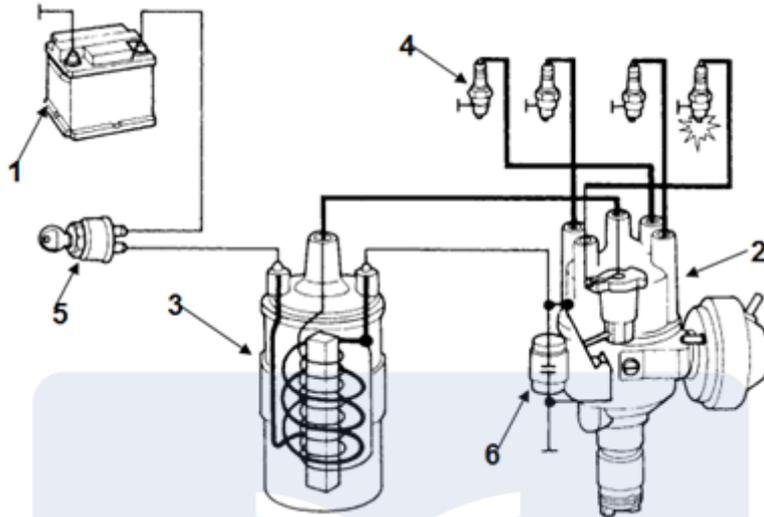

Figure 7
6) The diagram (figure 7) below represents an ignition system
- 6.1 State the function of part 3 of figure 7. (2marks)
- 6.2 Explain the operating principle of the ignition system represented by figure 7 above. (4marks)
- 6.4 State the name of the part that drives part 2 of figure 7. (1mark)